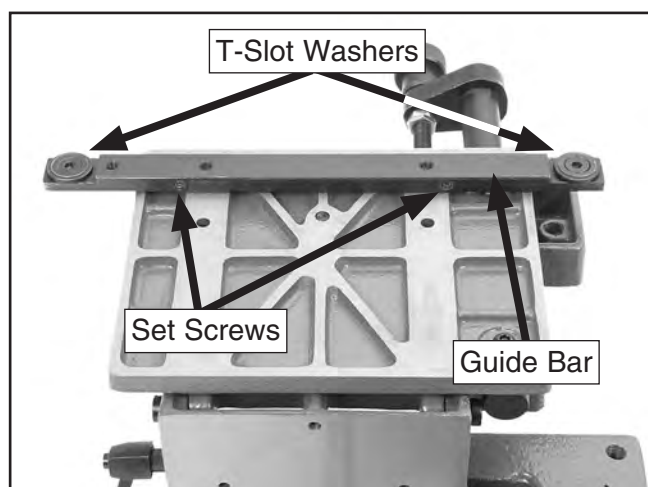

Figure 13. Guide bar.
3. Remove the jig from the table saw and turn it upside down, as shown in **Figure 13**.
4. Evenly adjust the set screws shown in **Figure 13** the same amount so that they protrude from the guide bar enough to take up the side-to-side play experienced in **Step 2**.